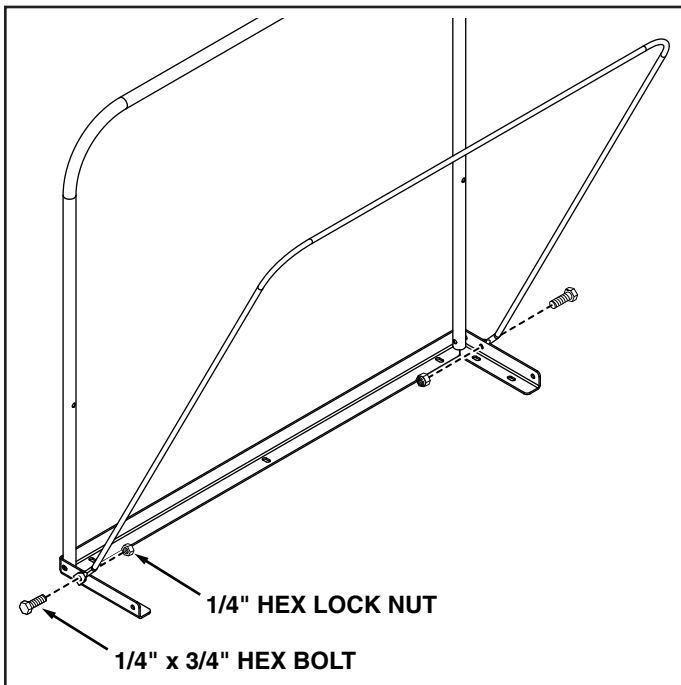

FIGURE 24
8. Attach the lower support rod closest to front support tube to the outside of the top angle support using two 1/4" x 3/4" hex bolts and 1/4" hex lock nuts. **DO NOT TIGHTEN YET.** See figure 24.